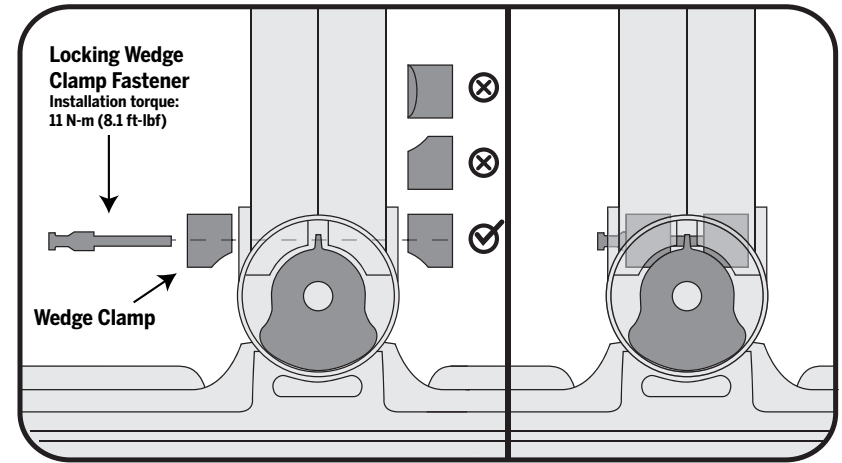

Figure 2. Ensure the Wedge Clamp is installed curved side down
5. Ensure that the Wedge Clamps are installed properly, curved side facing down, on either side of the LeanSteer Frame base. Each Wedge Clamp should be installed to properly fit to the pivot hub. See Figure 2 and review the Warning Section at the beginning of this document.